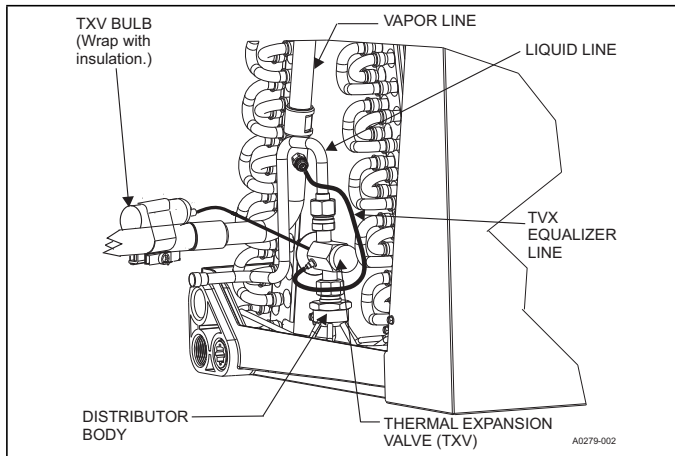

FIGURE 17: TXV Bulb and Equalizer line Installations
6. Install the TXV equalizer line onto the vapor line by hand tightening the 1/4" SAE coupling nut to the equalizer fitting, and apply an additional 1/3 turn to seal. See Figure 17.
8. Install the TXV bulb to the vapor line near the cabinet, using the bulb clamp(s) furnished with the TXV assembly. Ensure the bulb is making maximum contact. See Figures 17 and 18, and accomplish the following:
Prior to and during the accomplishment of the installation procedures, verify all tasks are accomplished as illustrated in Figures 17 through 22.